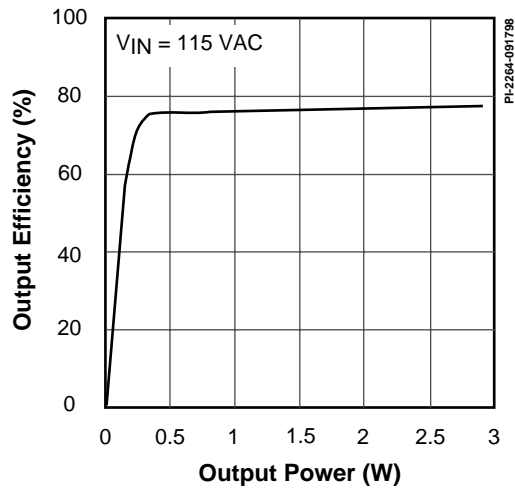

Figure 8. Efficiency vs. Output Power, 115 VAC Input.
**Efficiency (Load Dependent)** - The curves in Figures 8 and 9 show how the efficiency changes with output power for 115 VAC and 230 VAC inputs. Due to the *TinySwitch* regulation scheme, the efficiency is relatively constant from 0-100% of output load.